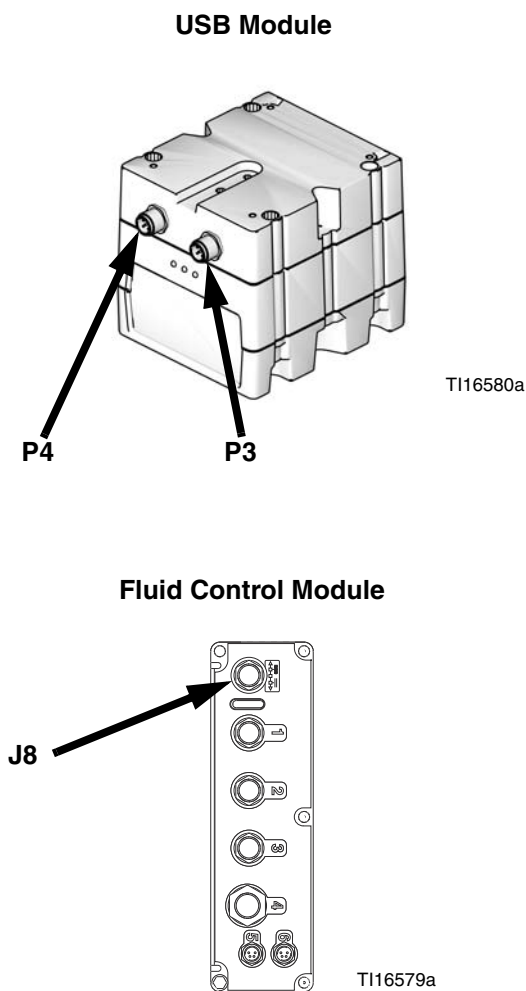

FIG. 2. Install Part No. 15V778 Cable (Non-IS Systems)
1. Remove the user interface cable from J8 of the fluid control module and plug it into connector P3 of the USB module. See Fig. 2.